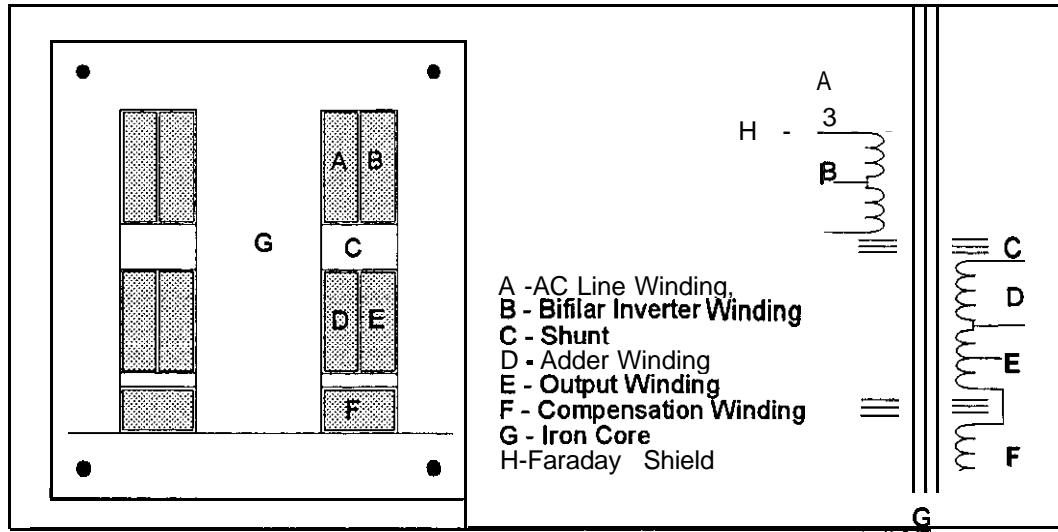

Figure 8
The **ferroresonant** transformer is a non-linear transformer with live (5) windings, wound in three (3) different groups. Each group is separated from the others by **stacks** of metal plates **called** shunts. The shunts help to isolate one group from another and to channel the magnetic field within the **transformer's** iron core. Please refer to **Figure 8** on the next page for a cut-away view and diagram of the **ferroresonant** transformer.
The third secondary winding (F in Figure 8 on the next page) is the compensation winding. The compensation winding helps to provide a computer-grade sine wave by canceling harmonics. This winding is connected in series with the other secondary windings. It compensates for variations in the voltage applied to the AC **line** winding.